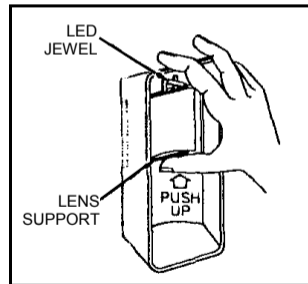

Fig. 3. Removing the lens.
1. Push up on the lower edge of the Lens Support (see Fig. 3) until it is clear of its retainers, then pull out the Lens Support from the bottom. Be careful not to dislodge the LED jewel.